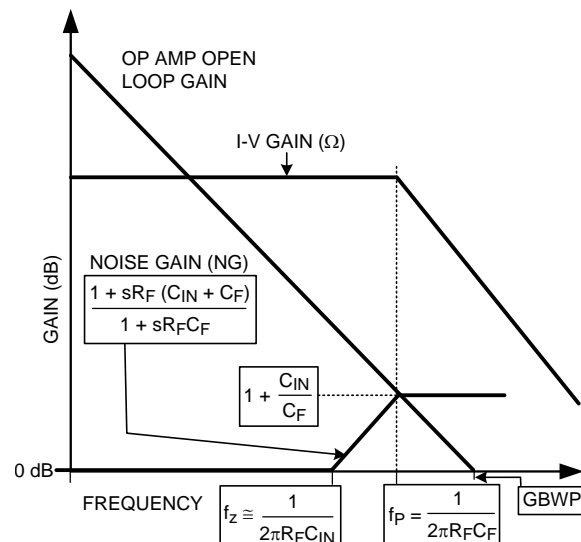

Figure 61. Transimpedance Amplifier Noise Gain and Transfer Function
Figure 61 shows the Noise Gain (NG) and transfer function (I-V Gain). As with most Transimpedance amplifiers, it is required to compensate for the additional phase lag (Noise Gain zero at  $f_z$ ) created by the total input capacitance ( $C_D$  (diode capacitance) +  $C_{CM}$  (LMH6629 CM input capacitance) +  $C_{DIFF}$  (LMH6629 DIFF input capacitance)) looking into  $R_F$ . This is accomplished by placing  $C_F$  across  $R_F$  to create enough phase lead (Noise Gain pole at  $f_p$ ) to stabilize the loop.